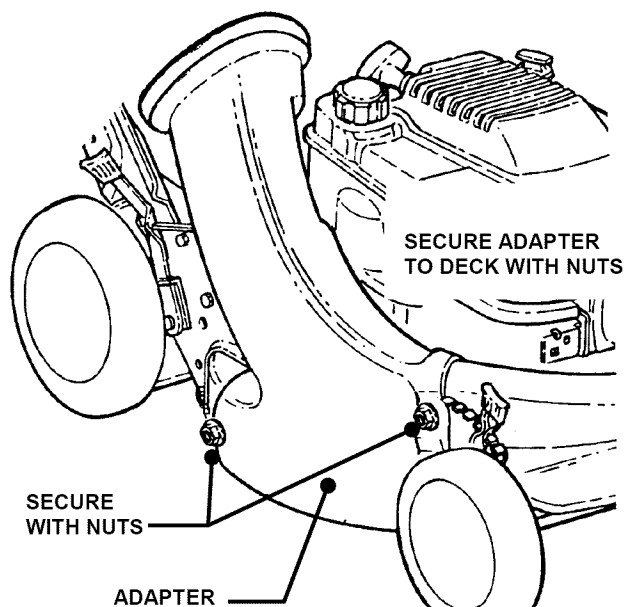

FIGURE 2.10
**STEP 1:** Install the grass bag adapter and secure to the side and top of the deck with the two nuts provided on the machine. Slot in front edge of adapter must be under nut located on top of deck. See Figure 2.10.